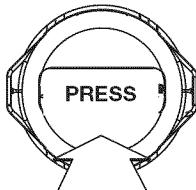

Fig. 21
- Reattach the bump cap by aligning the tabs of the bump cap with the tab lock windows of the outer spool and press down firmly until both tabs snap back into place. (Fig. 21)